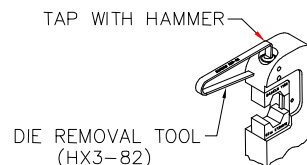

FIG. 2
1. With the crimp dies pulled open, place die removal tool against end of knockout pin and tap gently with small hammer. (See Figure 2) The die will be released from the front die holder. It can now be removed by hand.